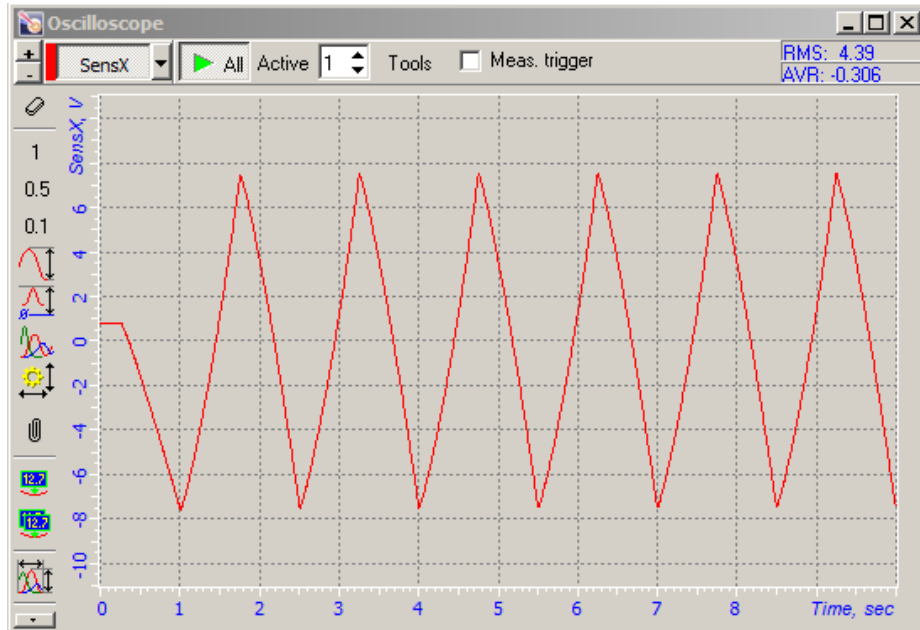

Fig. 1-10. Verification of the X-sensor adjustment.
- If the signal peak-to-peak amplitude is not less 13 V and the signal average is in the range ± 1 V (Fig. 1-10), adjustment of the X-sensor is not needed. The average value of the signal is shown in the **AVR** box of the panel for selecting the displayed signals.